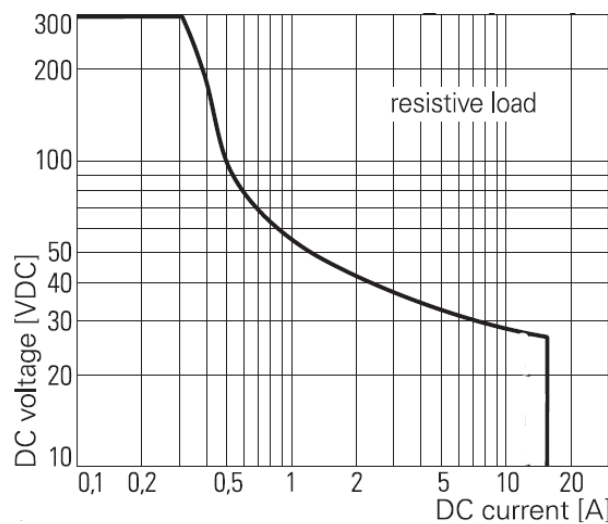

Figure 3-12: Max. DC load breaking capacity
* For DC Voltage and Current, refer Figure 3-12.